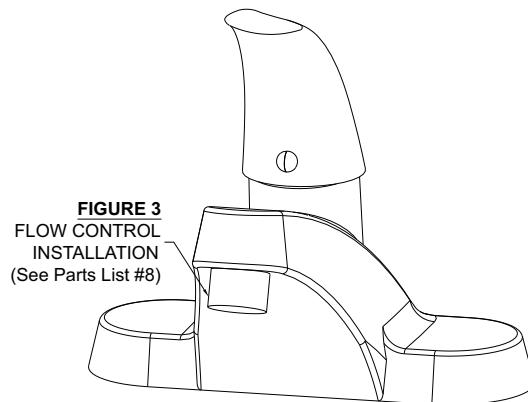

FIGURE 3
2. Failure to install faucet flow control as shown on (Figure 3 page 6) may cause unsatisfactory operation of the heater.